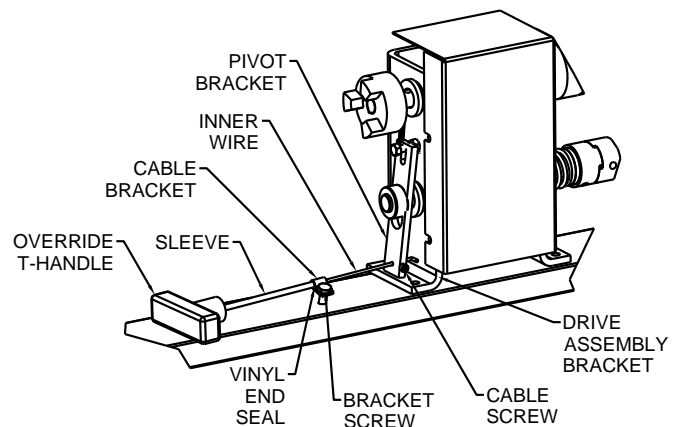

Fig. 6 – Override cable
- Disconnect cable assembly from drive assembly. Loosen and remove cable screw inside of pivot bracket, then remove the bracket screw from cable retainer bracket. See Fig. 6.